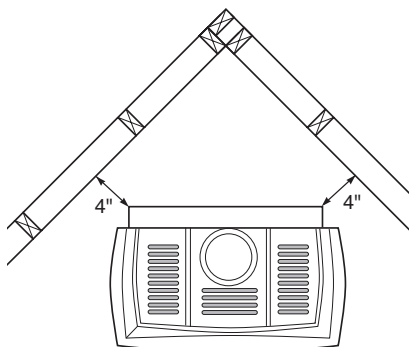

Figure 4 - Clearance for Corner Installation
- Proper clearances must be maintained. See Figure 3 below and Figure 4, page 6.